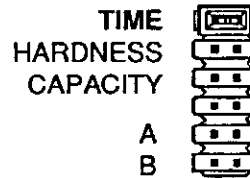

Figure 2
3. With the "jumper" on the set of pins next to the word "TIME" (Figure 2), set the time-of-day to the closest hour by depressing the black TIME SET BUTTON. PM hours are indicated by a light next to the letters PM on the display window.